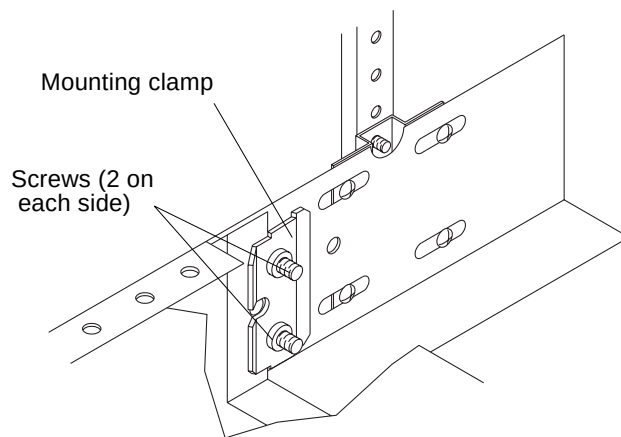

FIGURE 1-16 Tightening the Mounting Clamp
Do not tighten the screws on the mounting clamps (FIGURE 1-16 on page 20).
- 3. Tighten the two screws in each mounting clamp, one on each side of the chassis (FIGURE 1-16).**